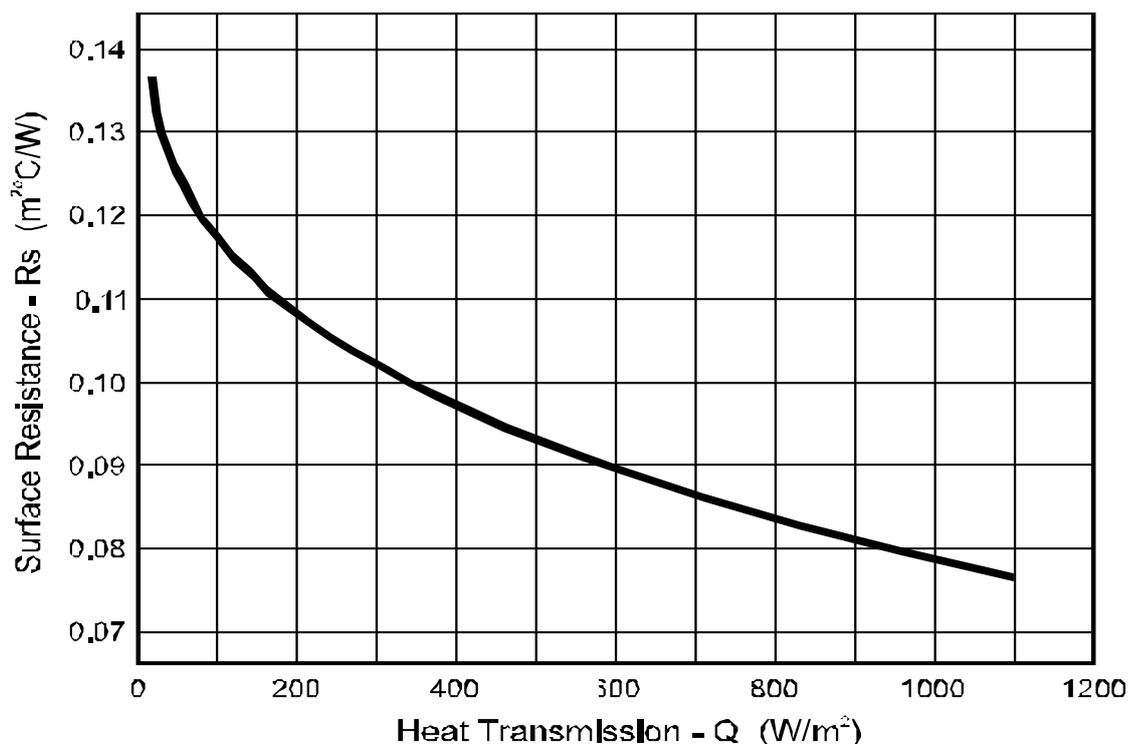

Figure 2.7
Surface Resistance " R_s " is the opposition to heat flow through the boundary layer between the insulation and the ambient air. The level of resistance provided by this surface film depends on the amount of heat flow through the layer. The R_s value can be determined from Figure 2.7.
Note that the heat flow (Q) depends on the surface resistance (Rs). From Figure 2.7, we see that Rs depends on Q. Therefore, a trial and error solution must be used to determine final Rs and Q values.